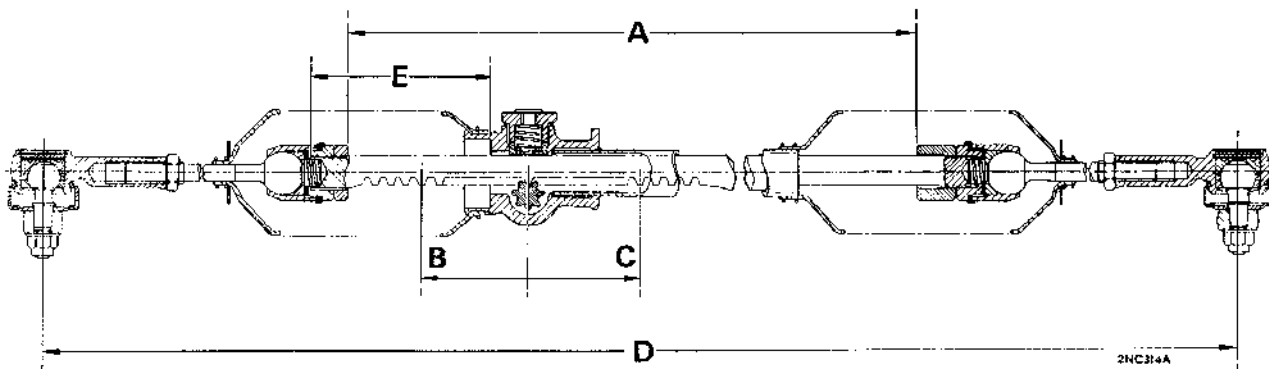

Fig. J.6
- (33) Immerse the pinion bushes and the plunger in S.A.E. 20 engine oil, and heat the oil to 100° C. (212° F.) for two hours, then allow the oil to cool before removing the bushes and plunger from the oil and fitting to the rack; this allows the pores of the bushes and plunger to be filled with lubricant.
- (34) Fit the bottom bush into the pinion housing as follows:
- (35) Fit the thrust washer, chamfered bore uppermost, into the pinion housing.
- (36) Insert the rack into the housing from the pinion end, noting the following:
- (b) Insert the rack into the housing with 3½ in. (88.90 mm.) of the teeth end protruding from the 'travel' abutment face of the pinion housing (see dimension 'E' of Fig. J.6).